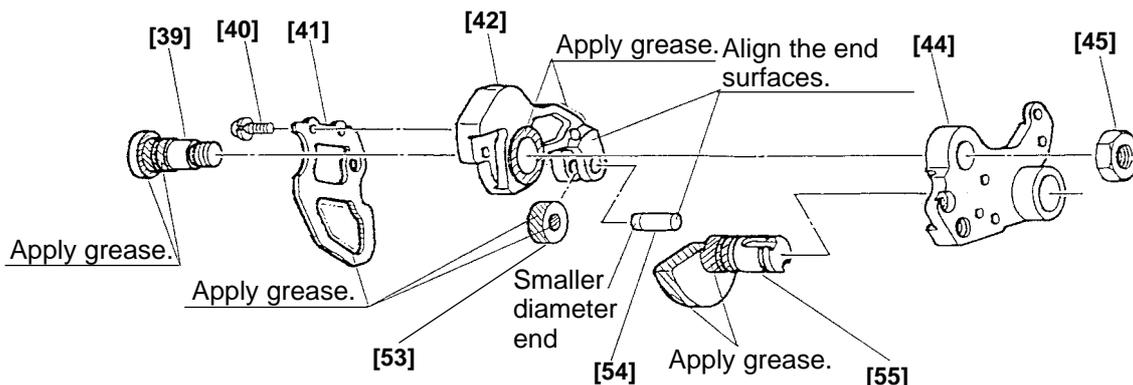

Fig. 36
(a) Lubrication (Fig. 36)
Sufficiently apply grease to Bracket (A) [42], Bracket (B) [44], Roller (A) [53], Cam Shaft [55], coupling portion and rotating portion of Bolt (A) [39] because high loads are applied to these parts. Also apply grease to the inner circumferences of the punched holes of the Return Plate [41] and the sliding portions of the Return Spring [18] and Bracket (A) [42]. Apply TUFREX 251 grease to the shafts, holes and surfaces indicated with diagonal lines and two-dot chain lines in Fig. 36. Carefully apply grease to the inner circumference of the hole of Roller (A) [53] until the grooves in the hole are completely greased.
Check the position of the smaller diameter end of the Roller Pin [54] and insert the Roller Pin [54] in the hole of Bracket (A) [42] in the proper direction as shown in Fig. 36. Align Roller (A) [53] with the hole of Bracket (A) [42] and press-fit the Roller Pin [54] until it becomes flush with the end surface of Bracket (A) [42] (Fig. 36).
Put Bolt (A) [39] through the hole of Bracket (A) [42] and press-fit it in Bracket (B) [44] completely (Fig. 36). At this time, a clearance is made between Bracket (A) [42] and Bracket (B) [44] due to the dimensional tolerance.